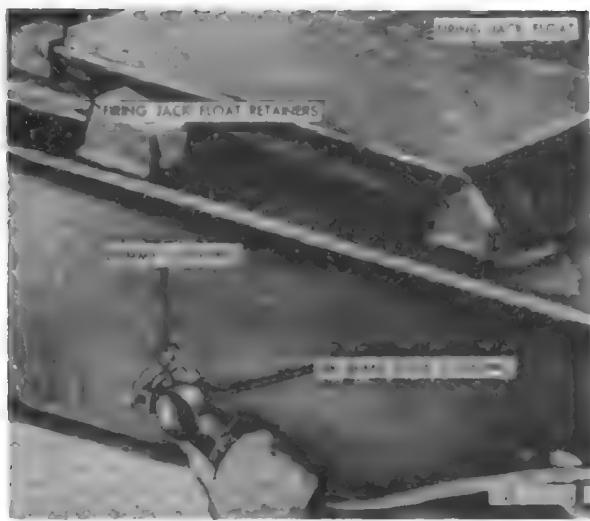
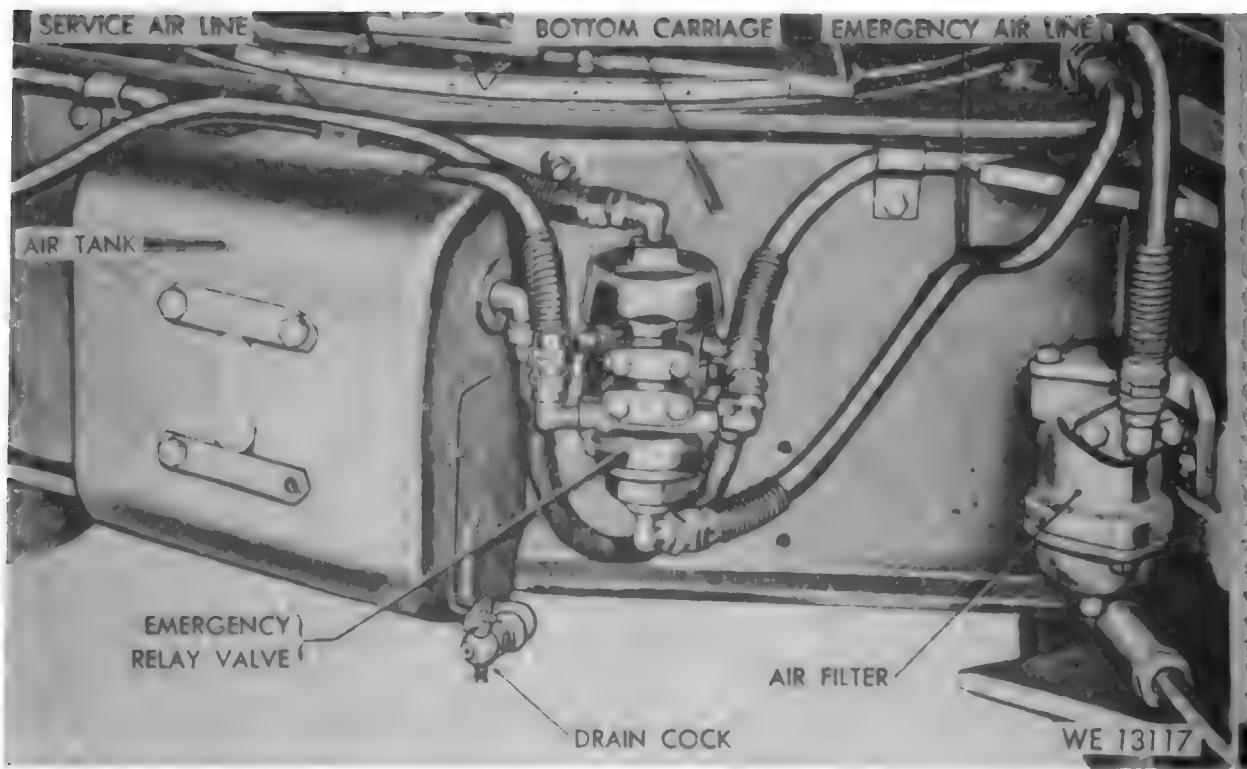

Figure 37. Attaching air brake hose coupling to dummy coupling on trail.
Figure 38. Emergency relay valve and air tank (guard removed).
- (3) Lock the air brake hose couplings in the dummy couplings on the sides of the trails (fig. 37). Remove the overall cover and the canvas firing jack cover, if in place. Remove the muzzle cover from cannon muzzle. Open the drain cock on the air tank (fig. 38).